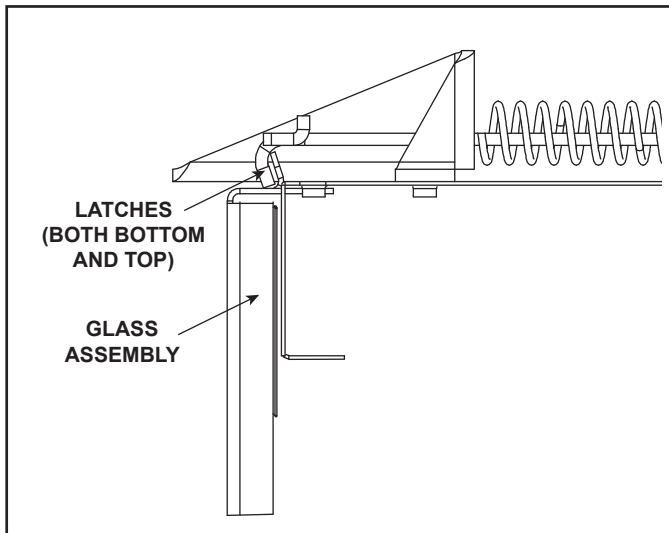

Figure 11.1 Fixed Glass Assembly
- Pull the four glass assembly latches out of the groove on the glass frame. Remove glass door from the appliance. See Figure 11.1.
- Replace the glass door on the appliance. Pull out and latch the four glass assembly latches into the groove on the glass frame. See Figure 11.1.